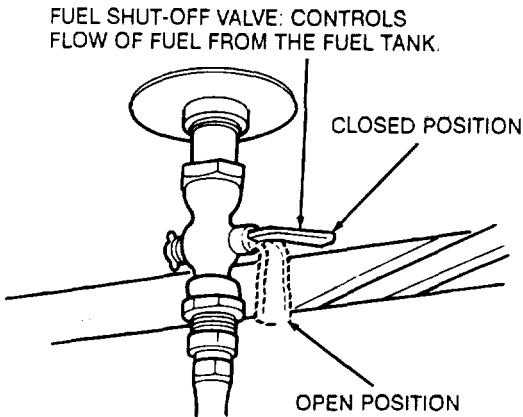

Figure 20. Fuel shut-off valve
- (1) Perform the Operator/Crew Preventive Maintenance Checks and Services (para 32).
- (2) Open the fuel shut-off valve (fig. 20).
b. Close fuel shut-off valve (fig 20).